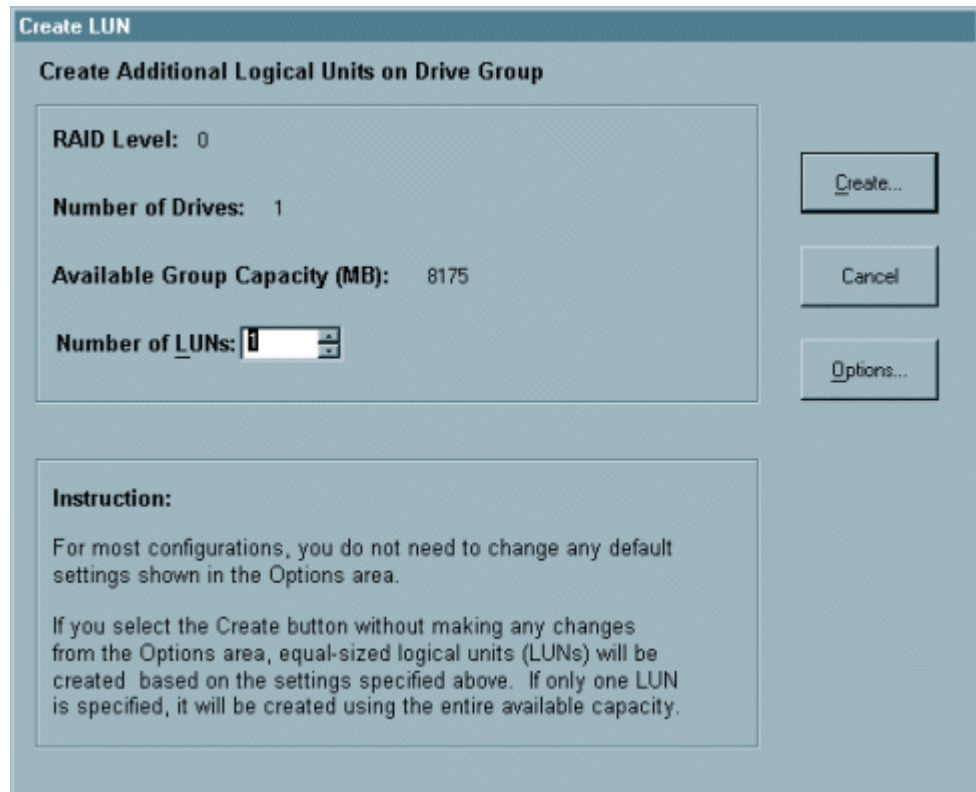

Figure 41. Creating a LUN from an Existing Drive Group
2. Select **Create LUN** which will result in Figure 41 on page 79.